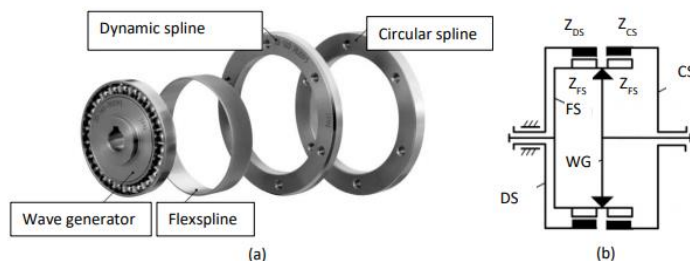

Figure 2. Pancake style strain wave gear
To reduce the lengthwise dimension of the strain wave gear, the second type of strain wave adds a fourth component called dynamic spline (DS) as shown in Figure 2 (a). The flexspline is a flexible spur gear without the rigid end flange. The kinematic diagram is shown in Figure 2 (b). The rotational speed between components are shown in Equation (3) and (4).